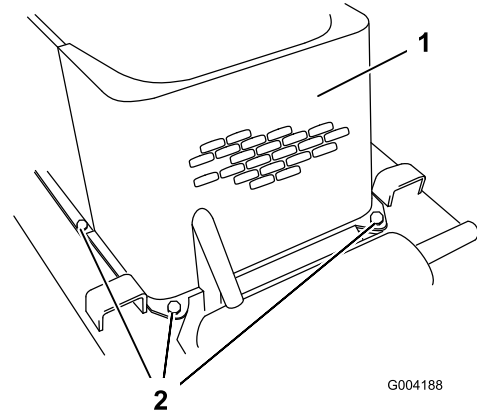

Figure 27
5. Remove the 4 bolts securing the front screen to the traction unit frame (Figure 27).